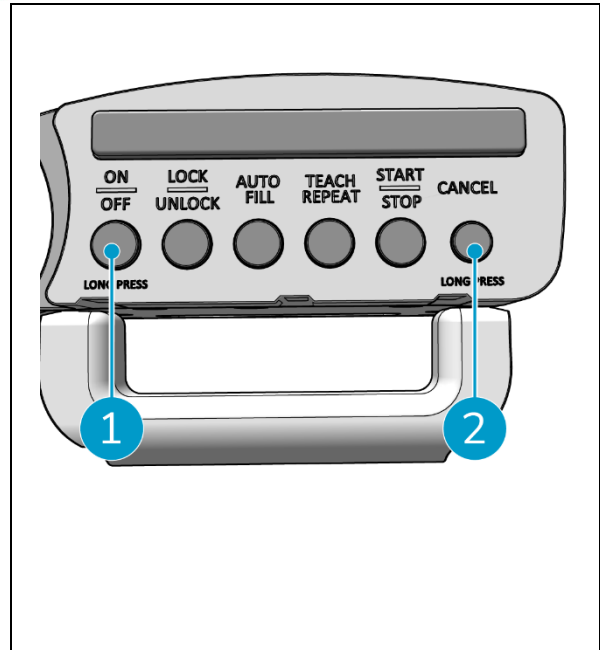

Figure 48
2. Press and hold the ON/OFF button (Figure 48, pos. 1) and the CANCEL button (Figure 48, pos. 2) on the handle controller simultaneously. The handle controller will beep 3 times to indicate that the connection has been deleted.